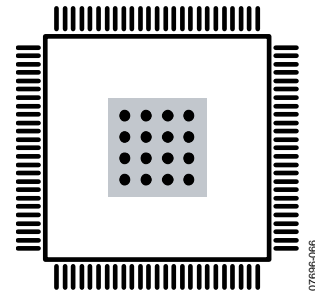

Figure 61. Exposed Pad Layout Example—Top View
- Vias should be placed to connect all layers of copper, allowing for efficient heat and energy conductivity. For an example, see Figure 61, which has 16 vias arranged in a 4 \times 4 grid in the pad area.